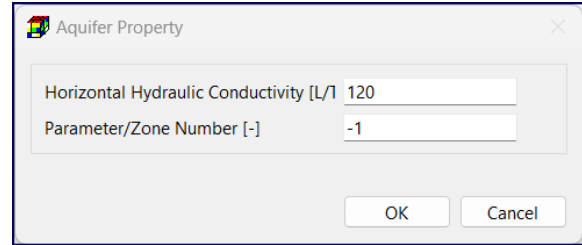

Figure 16. The Aquifer Property dialog box
- In the dialog box, enter the new value(s) and click OK. For example, if you are editing HK values, you can enter an HK value and a Parameter/Zone Number in the Aquifer Property dialog box (Figure 16). The Parameter/Zone Number is used in conjunction with PEST and/or Kriging. The following rules apply: